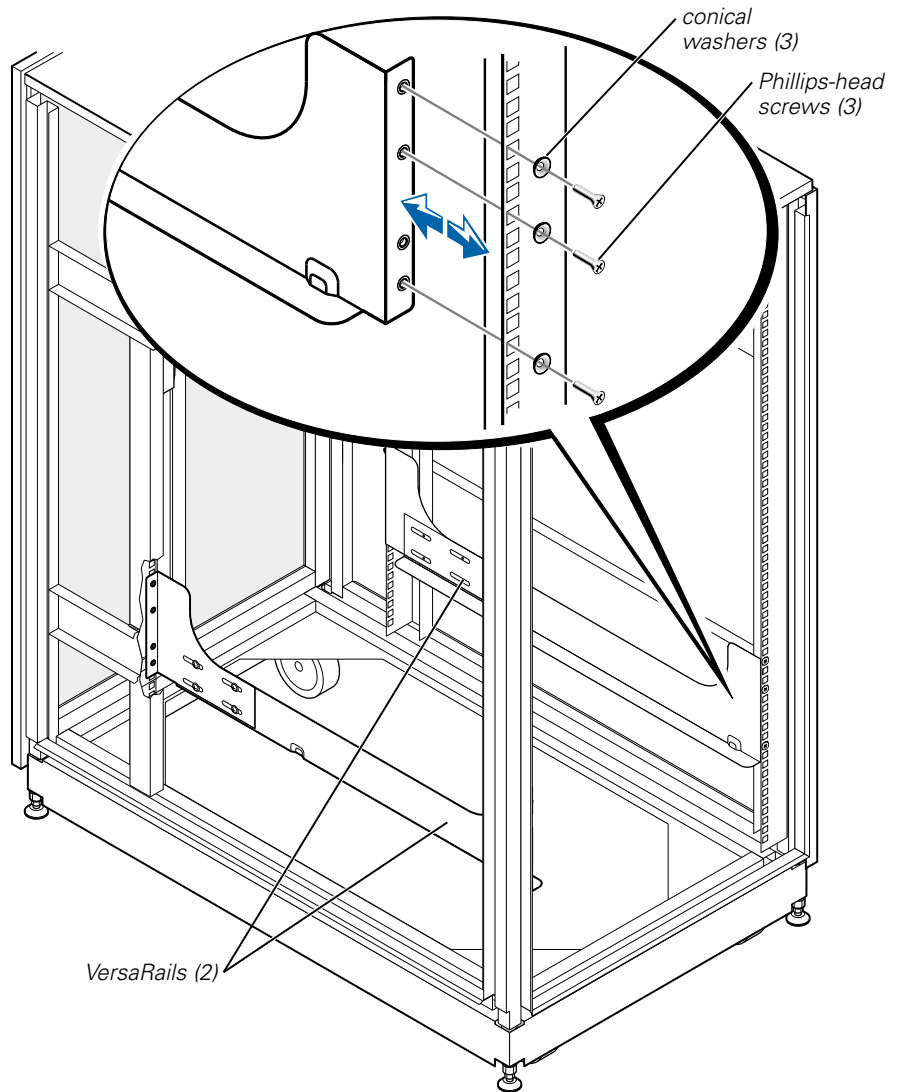

Figure 1-3. Installing the VersaRails
4. Secure the front of the VersaRail to the rack using three Phillips-head screws and three conical washers (see Figure 1-3).